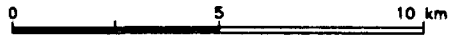

FIGURE 1
- FIGURE 1 Location of Survey Area
The claim block encompasses the border between Strathy and Cassels Townships, with the majority in Cassels Township and 3 claims in Strathy Township (Figure 1 & 2). The property is located 3.5 km NE of the town of Temagami. During the summer months the area can be accessed by a 2-wheel drive truck via a 4 km dirt road parallel to the northwest shore of Cassels Lake, or alternatively by boat across Net Lake. In the winter the above routes may be traversed by snowmobile, as was the case for this survey.